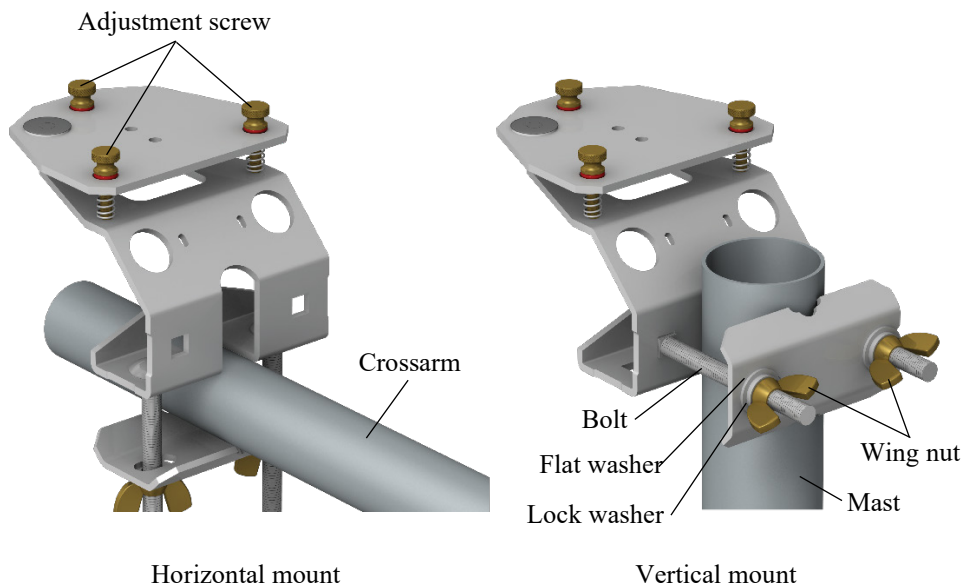

FIGURE 6-5. CM226 showing horizontal and vertical mount options
- The CM226 uses two bolts, wing nuts, and a clamp piece to secure it to a crossarm or mast (FIGURE 6-5).